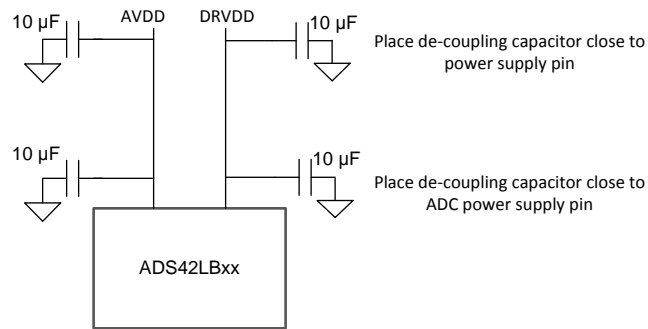

图 90. Recommended Placement of Power Supply De-coupling Capacitors
- Connect decoupling caps directly to ground and place close to the ADC power pins and the power supply pins to filter high-frequency current transients directly to the ground plane. This is illustrated in 图 90.